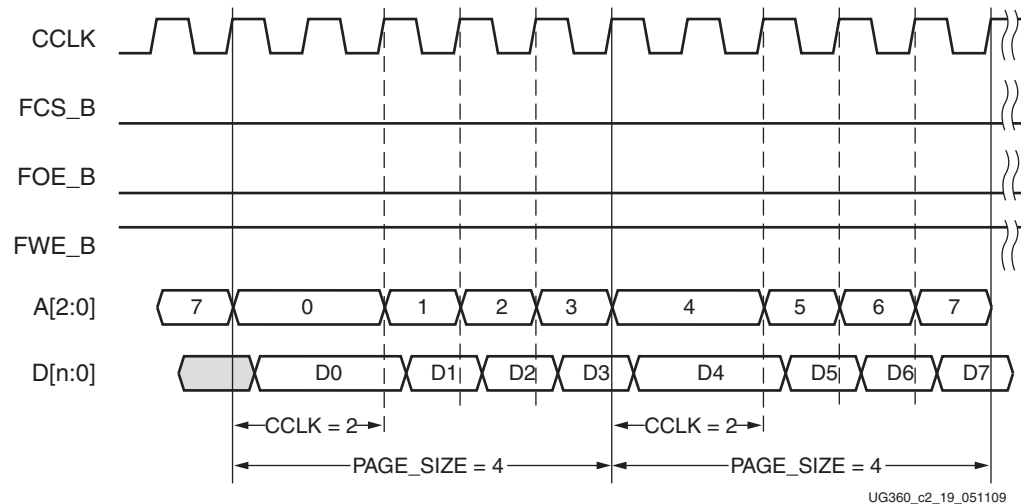

Figure 2-17: BPI-Up Waveforms (Page Size = 4 and First Access CCLK = 2)
The sequence of page-mode operation is controlled by the Virtex-6 FPGA bitstream (see Table 6-15). After an FPGA reset, the default page size is 1, the first access CCLK is 1, and the master CCLK is running at slowest default frequency. The COR0 register contains master CCLK frequency control bits (see Configuration Options Register 0 \(COR0\), page 116). The COR1 register contains BPI flash page mode control bits (see Configuration Options Register 1 \(COR1\), page 119). After the COR1 register is programmed, the BPI address timing switches at the page boundary as shown in Figure 2-17. When the SWITCH command is received, the master CCLK switches to a user-desired frequency, using it to load the rest of the configuration.
Notes related to Figure 2-17:
1. Figure 2-17 shows BPI-Up mode, a page size of 4, and a first access CCLK of 2.